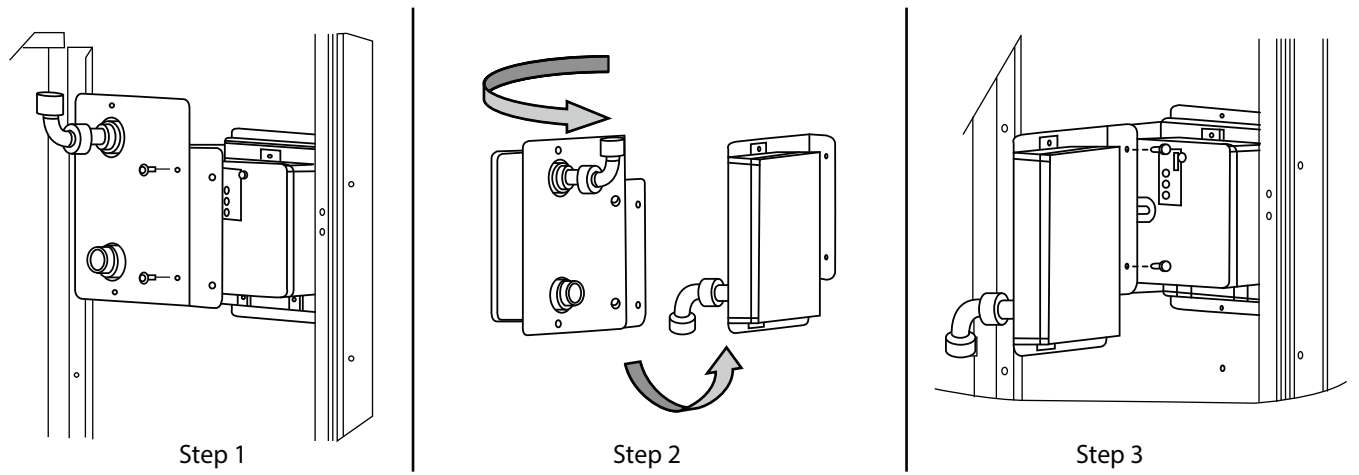
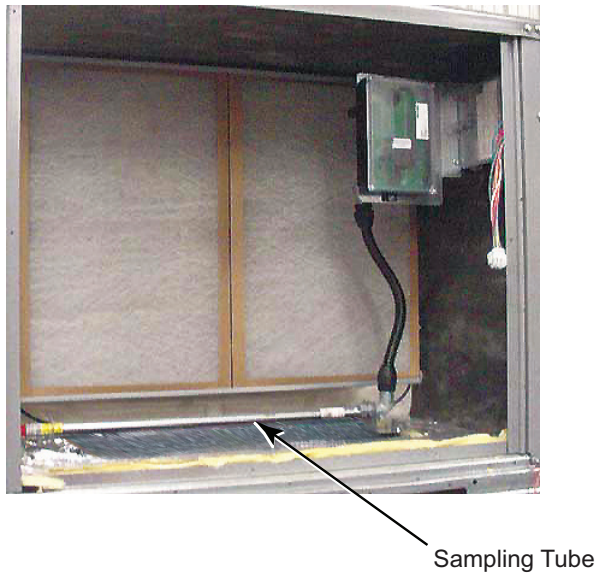

Fig. 95 — Completing Installation of Return Air Smoke Sensor
Fig. 96 — Return Air Smoke Detector, Shipping Position
1. Unscrew the two screws holding the Return Air Smoke Detector assembly. See Fig. 95, Step 1. Save the screws.
3. Turn the assembly 90 and then rotate end to end. Make sure that the elbow fitting is pointing down. See Fig. 95, Step 2.
4. Screw the sensor and detector plate into its operating position using screws from Step 1. Make sure the sampling tube connection is on the bottom and the exhaust tube is on the top. See Fig. 95, Step 3 and Fig. 96.